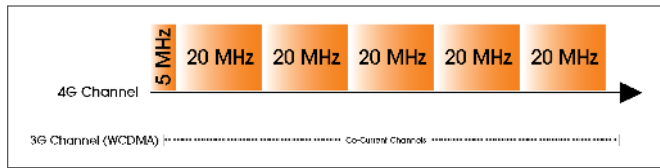

Figure 6: 3G vs. 4G Channel Bandwidth
4G, otherwise known as Long Term Evolution (LTE), increases channel bandwidth to 20 MHz per channel and can include 5 contiguous channels to 100 MHz total bandwidth. *Figure 6*. The RF test bench remains much the same, with the exception that the VSG must increase ARB bandwidth to greater than 100 MHz.
5G is a paradigm in mobile communications. More than a simple evolution, this generation introduces new protocols and is called New Radio (NR). Significant increases in bandwidth and latency are keystones for this new standard. Overcrowding in the current 3GPP spectrum designated as Frequency Range 1 (FR1) and bandwidth requirements has pushed the upper-frequency range (FR2) to 24.25 – 52.600 GHz, as shown in Figure 6. FR1 measurement systems will overlap 4G system capability. However, the move to FR2 with a bandwidth up to 400 MHz will require significant investment in new measurement systems capable of those high frequencies. Test equipment manufacturers are developing test equipment and methods to alleviate the considerable cost of a new test bench. These methods may include a box solution capable of making all the RF measurements, including saturation, Intermodulation Distortion (IMD), and S-Parameters. RF cables and connectors must be low loss and length minimized. On-chip antennas will require an Over the Air (OTA) test chamber, seen in *Figure 7*.